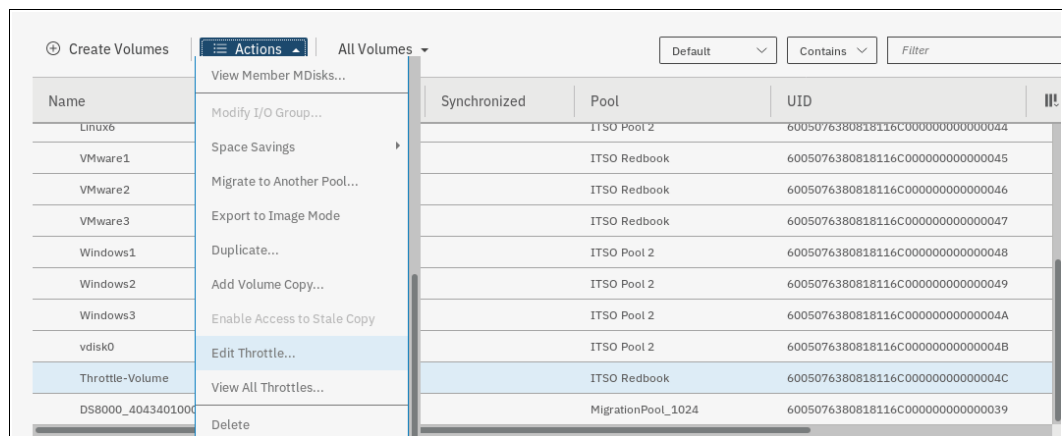

Figure 6-54 Edit Throttle
1. From the Volumes window, select the wanted volume to throttle, as shown in Figure 6-54.